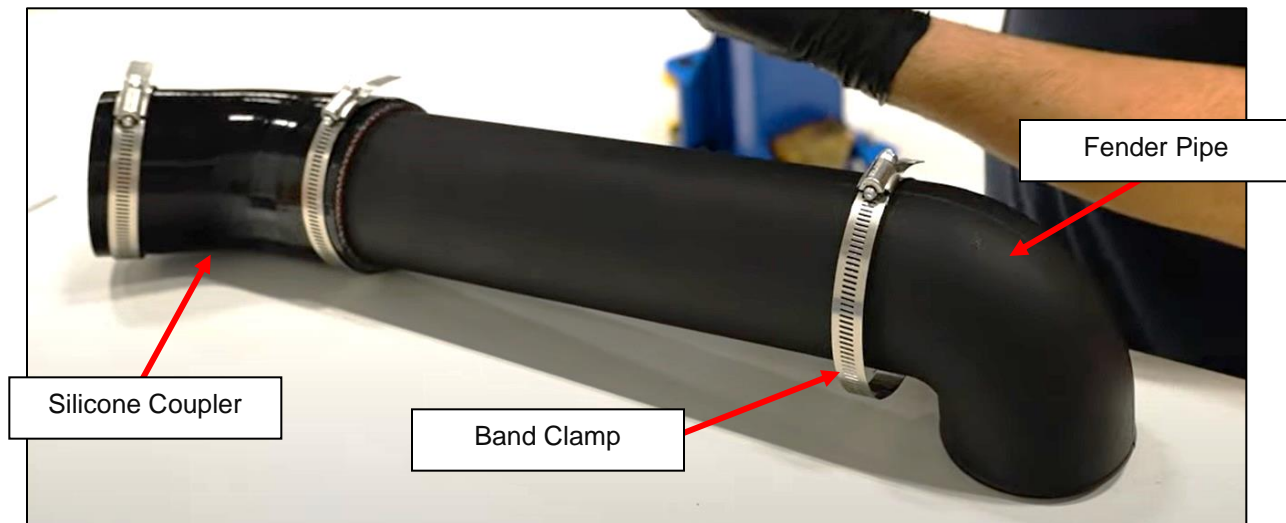

Figure 17
27. Locate the Fender Pipe, Silicone Coupler and (3) three Band Clamps. Install the Silicone Coupler onto the Fender Pipe, and loosely secure with one Band Clamp. Loosely install one more Band Clamp on each side of the assembly as shown below. *Figure 17.*